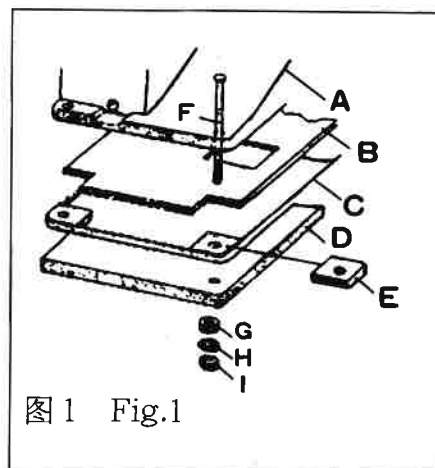
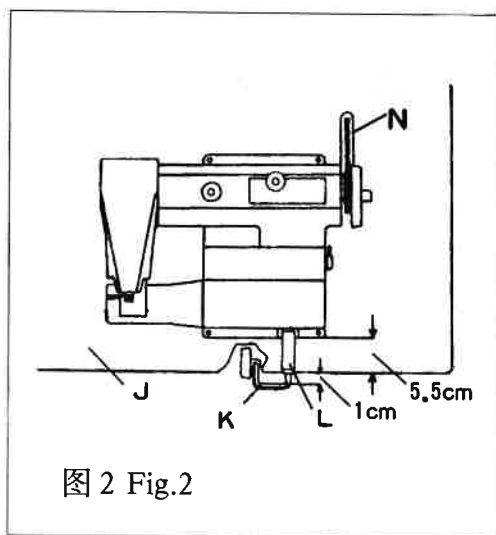

图 1 Fig.1
图 2 Fig.2
① 首先把后横档和踏板轴档与左右边架连接,再将踏板用踏板轴和踏板轴座与踏板轴档连接
② 将电动机与台板连接
③ 将台板放到机架上面,中间用四只台板垫圈隔开后用四只台板木螺钉和垫圈将台板与机架固定.
④ 将上、下拉杆分别与电机及踏板杠杆连接,并套上拉杆接头,调整好踏板的左右和高低位置后,将踏板固定,将拉杆接头固定,使踏板定位.
(2) Fitting machine frame
① First connect rear stand side support and treadle shaft beam with side frame (left and right),and then link up treadle with treadle shaft beam by treadle shaft and treadle shaft base.
② Mount the motor onto the table.
③ Put the table onto machine frame, partition the table at the centre with four table washers, and fix the table and machine frame with washers and wood screws.
④ Connect upper and lower pull rod with motor and treadle lever, put on pull rod joint. After regulating position of treadle(left and right, high and low),fix the treadle and pull rod joint to locate the treadle
(3) 机头的安装
① 将底盘防震垫“D”、机座底盘“C”、机座防震垫“B”、防震垫“E”、机头“A”依次放到台板上,对准四只孔后将四只小六角螺栓“F”从上到下插入孔中,依次套上防松垫“G”、平垫“H”后旋上六角螺母“I”,对角逐次旋紧四只螺母,将机头固定在台板上(图1)
② 将膝操纵杆“K”及套筒“L”与长轴前端连接,膝操纵杆横杆离台板“J”前端距离为1厘米时将套筒固定(图2).
③ 装上三角带“N”,左右移动电机位置,使电机带轮与机头手轮对准后将电机固定在台板下,调节电机高低位置,使皮带松紧处于适宜状态.
④将电机开关固定在台板右前下方操作方便的位置上,接通电源.
① Put pads "A", "B", "C", "D", "E" onto the table in order as shown in Fig.1. Insert four hexagon head bolts with small head "F" into the holes. After putting on washers "G" and "H", put on hexagon nuts "I", tighten the four nuts diagonally, and fix the machine head on the table (Fig.1)
② Connect front end of long shaft with knee lifter "K" and sleeve "L". When the crossbar of knee lifter is 1 cm. distant from the front end of table "J", fix the sleeve (Fig.2).
③ Put on "V" belt "N", move the motor leftwards or rightwards so as to fix the motor under the sewing table after making the motor pulley in alignment with handwheel. Regulate the motor's height in order to make the belt in an appropriate state of tightness.
④ First fix the motor switch at the bottom right place of the front end of sewing table for the convenience of operation, and then turn on the power.